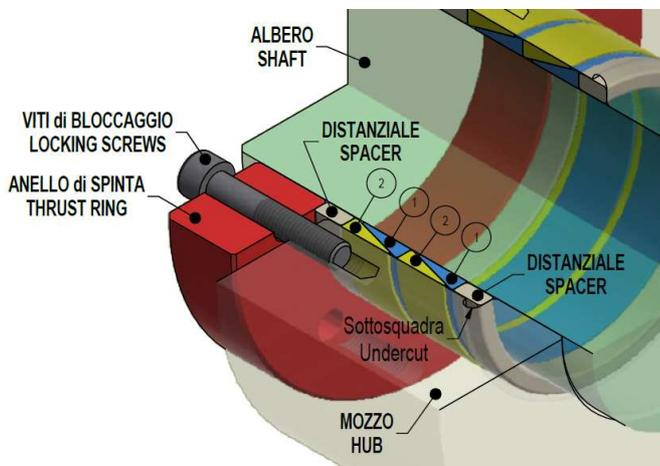

Fig. 2. Design example w/ tapped hub.
- **The Locking Element shall be tightened by means of one customer design thrust ring* and a set of locking screws, which shall be tightened into threaded holes tapped in the hub or shaft's end (fig. 2, 3). Installation may also require spacers. Tightening hardware and spacers are not supplied by MAV S.p.A.**
Locking Elements MAV 3003 shall be tightened by means of one customer design thrust ring and a set of locking screws, which shall be tightened into threaded holes tapped in the hub or shaft's end (fig. 2). Installation may also require spacers. **Tightening hardware and spacers are not supplied by MAV S.p.A.**